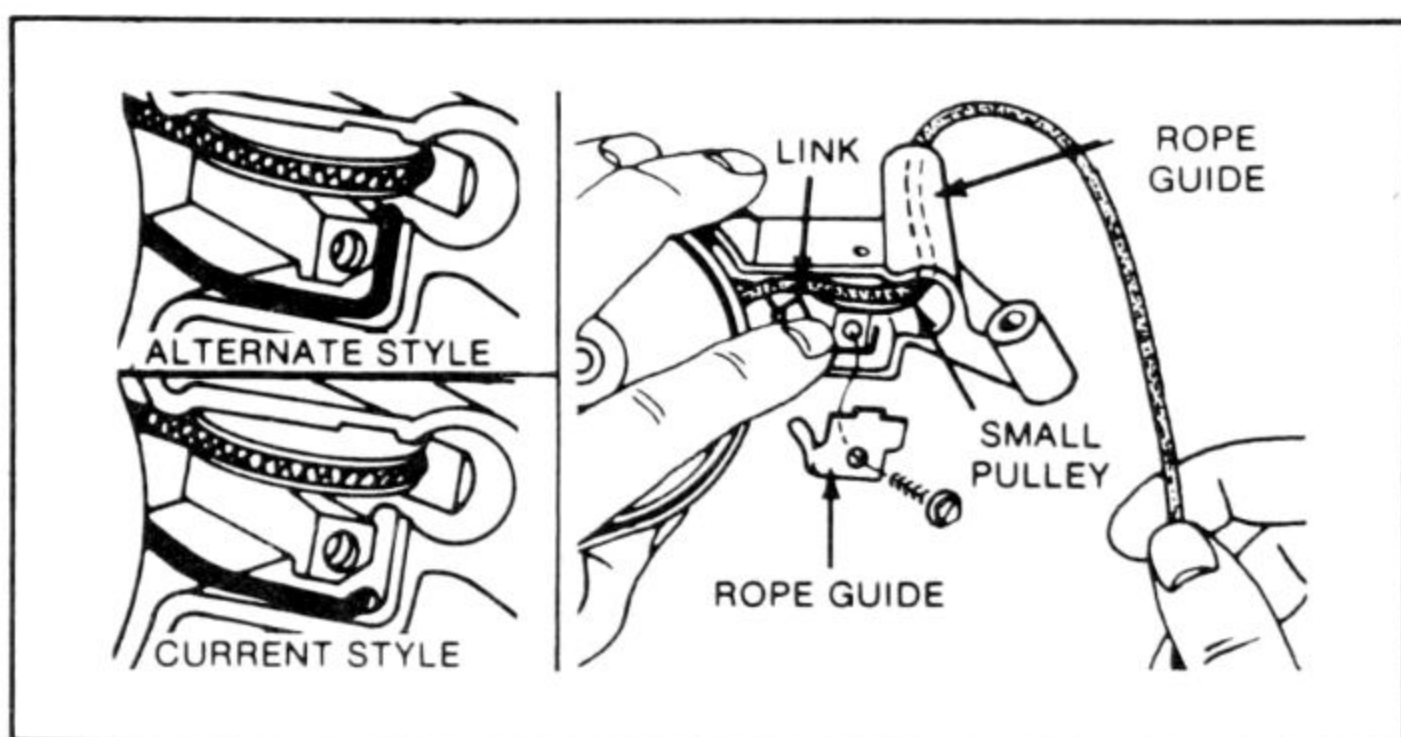

Fig. 4-27. Friction link hold-down detail.
5. Mount the sheave, sheave pin and link assembly in the housing. Index the end of link in groove or hole provided (Fig. 4-27).